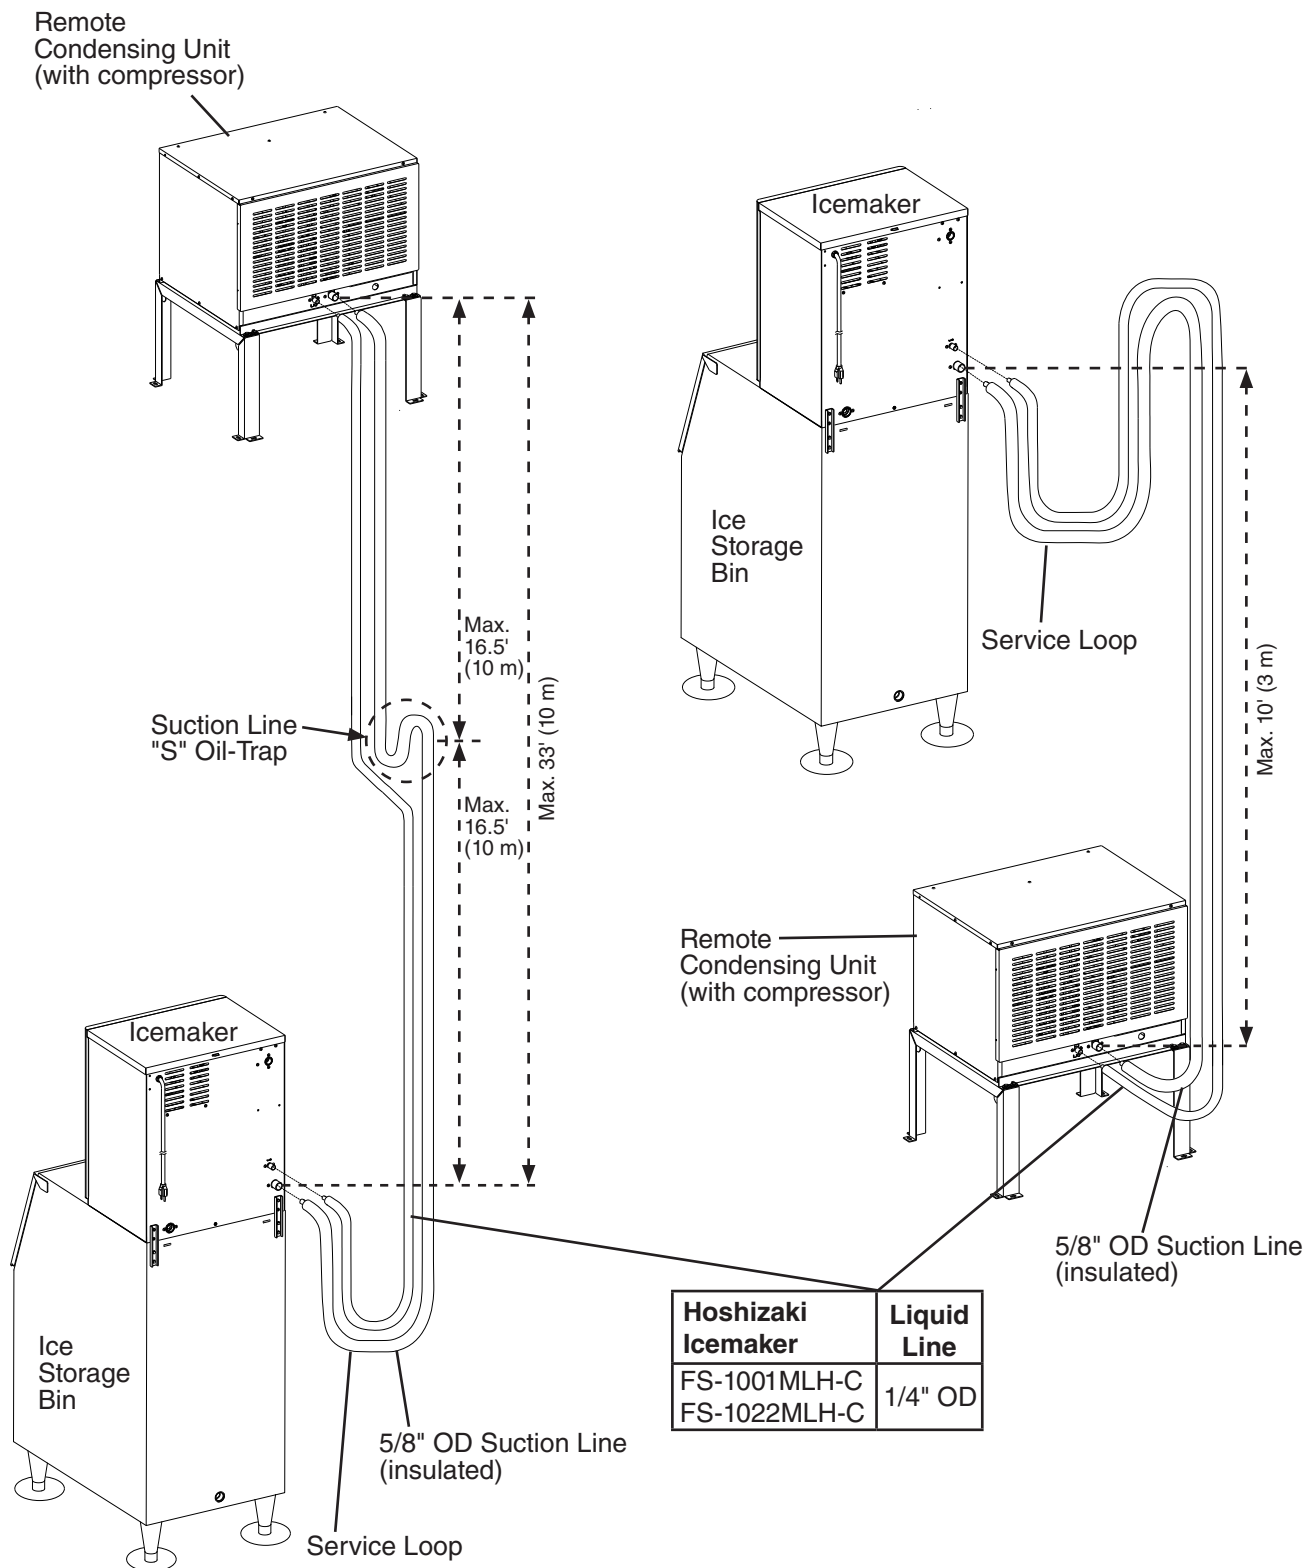

Fig. 8
- The maximum vertical distance between the remote condensing unit and icemaker is 33' (10 m) above or 10' (3 m) below the icemaker. These distances are measured fitting to fitting. See Fig. 8.
- 1) Route the factory line set or appropriate size copper tubing. When field fabricating, insulate the copper tubes separately. Leave a service loop behind the icemaker to allow the icemaker to be pulled out for service. See Fig. 8. Note: The service loop is not considered an oil trap.